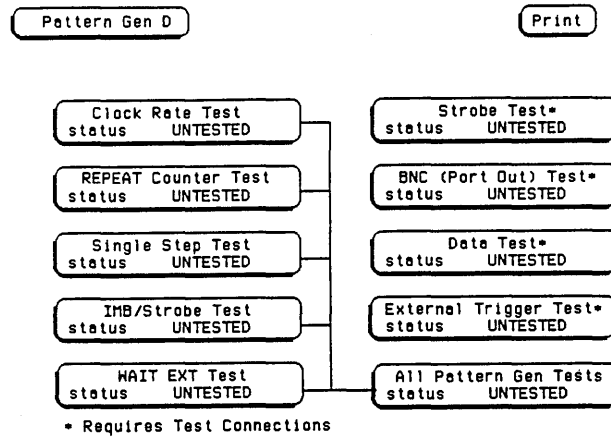

Figure 6-7. Main Test Menu
- e. Figure 6-7 is the main self test menu. Self tests can be run individually by touching a specific test field, or all tests automatically one time by touching "All Pattern Gen Tests". When "All Pattern Gen Tests" is run, the test status will change to "TESTED". When individual tests are run, the status will change to either "PASSED or FAILED".